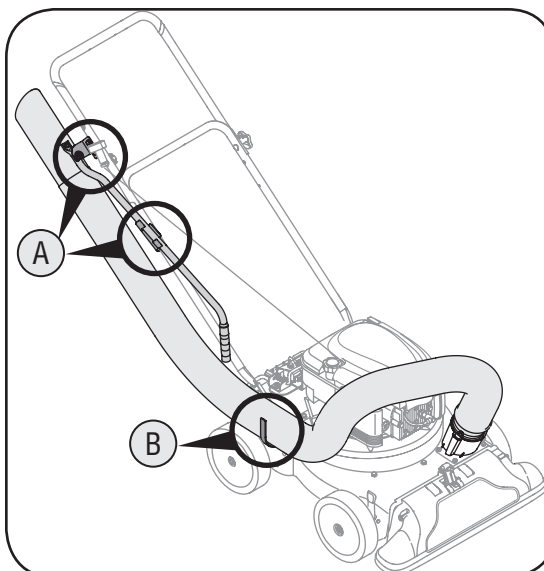

Figure 3-5
6. a. Snap the hose handle first into the upper hose handle bracket and then into the lower hose handle bracket. See Figure 3-5.
- b. Lay hose tubing on hanger bracket next to chipper chute. See Figure 3-5.